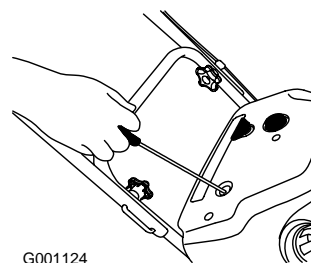

Figure 16
4. Pull the recoil starter (Figure 16).